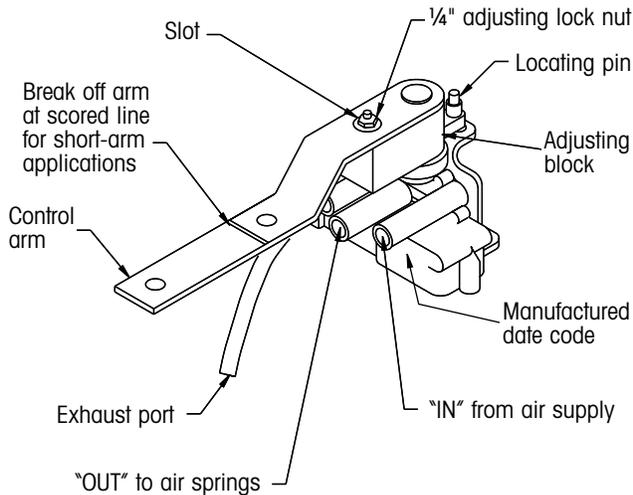
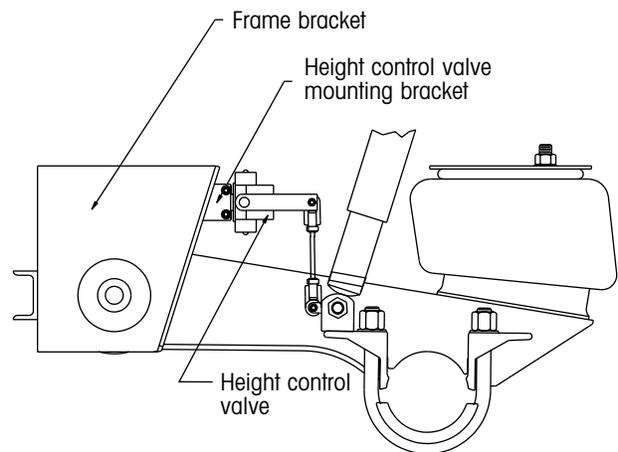

Figure 1. Height control valve terminology
Figure 4. Installing the height control valve on HT suspensions
**NOTE:** This installation procedure is to be used only for height control valves that look similar to the one shown in figure 1 and have the following Hendrickson part numbers: A-1329, A-12391, A-14590 and A-10451.
1. Hendrickson suspensions are shipped with the height control valve mounting bracket pre-attached to the roadside frame bracket (figures 4 and 5). Use this mounting bracket to determine the proper control-arm length. For example if a short control arm is required, break or cut the control arm off at the scored line (figure 1).
2. Attach the height control valve to the mounting bracket on the roadside frame bracket (figures 4 and 5).
- The center (out) port on the valve is always connected to the air springs. Assemble the filter fitting to the valve. Then attach the air line to the fitting with the Delrin sleeve, brass insert and nut (if using plastic tubing for air lines) or with the brass sleeve and nut (if using copper tubing for air lines). Refer to figures 1 and 6.
- The top port (after the valve has been mounted) is always the exhaust port. Install the exhaust fitting into the top port of the valve and slip the exhaust hose over the end of the exhaust fitting. Refer to figures 1 and 6.
- The bottom port (after the valve has been mounted) is always connected to the air supply. Assemble the filter fitting to the valve. Then attach the air line to the fitting with the Delrin sleeve, brass insert and nut (if using plastic tubing for air lines) or with the brass sleeve and nut (if using copper tubing for air lines). Refer to figures 1 and 6.
- Insert the plastic locating pin (figure 1). This pin locks the control arm in the neutral position, simplifying installation and preventing inadvertent ride-height adjustment.